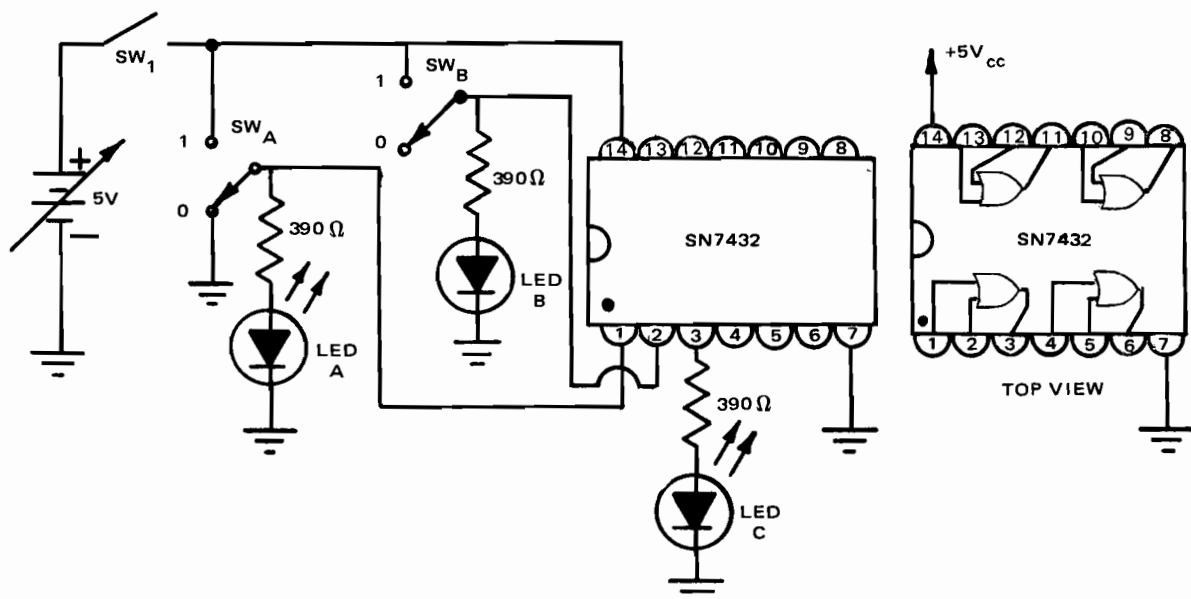

Fig. 17-2-1
1. Connect the OR gate experimental test circuit as shown in Fig. 17-2-1.